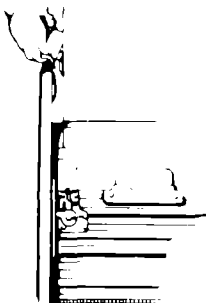
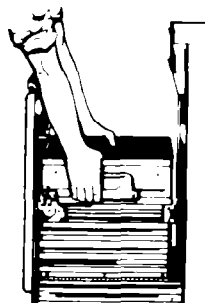

FIGURE 5
FIGURE 6
- a. Grip handle and raise front of drawer until it clears stops. See Figure 5.
- b. Grasp side ridges of the drawer and lift drawer out. See Figure 6.
2. To replace the drawer, grasp side ridges of the drawer (Figure 6). Place drawer onto tracks lifting the front to clear stops (Figure 5). Close drawer.